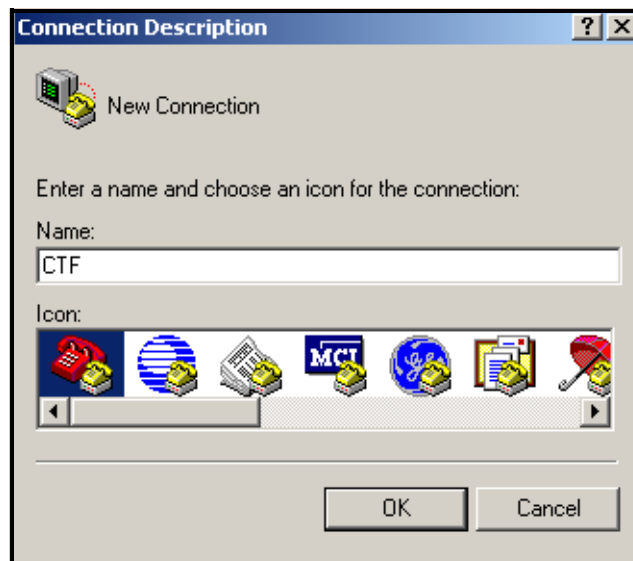

Figure 2-5: New Connection Window
2. A *New Connection* window appears (see Figure 2-5 below). Enter a name for the *New Connection*. Click OK.